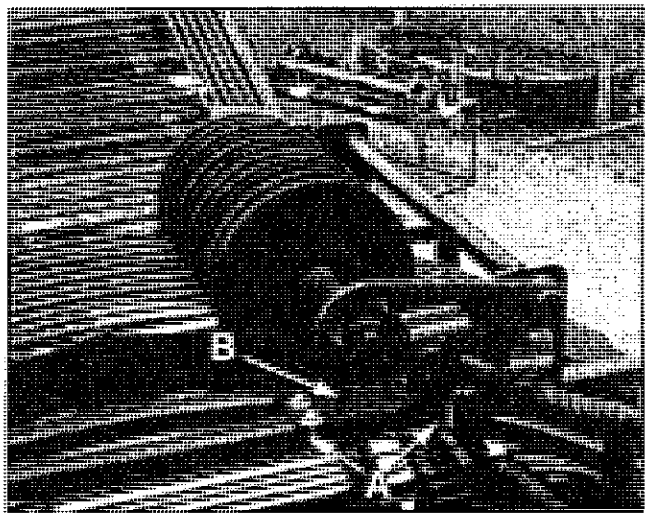

Figure 3.15: Stripper Installation.
Install stripper 10" from rear edge of support frame. Lift stripper assembly into position and attach with four (4) 1/2" u-bolts (A) (see Figure 3.15), eight (8)
Turn the wheel elevator one or two complete revolutions and slide stripper supports (B) right or left to eliminate interference (see Figure 3.15).